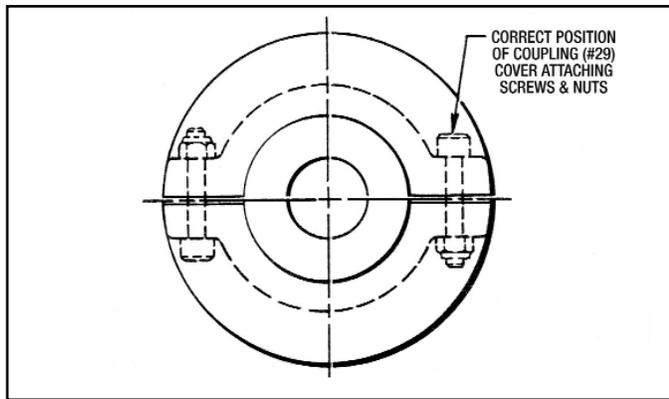

Figure 5 - Attaching Coupling Split Cover
Attach the coupling halves with the (4) screws and (4) PTL locknuts as shown in Figure 5.